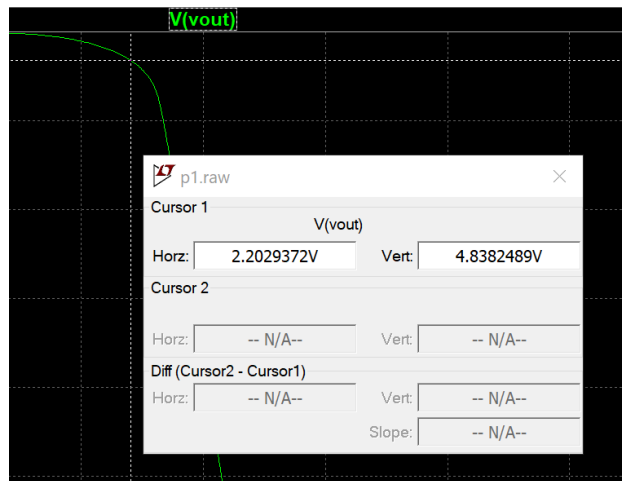
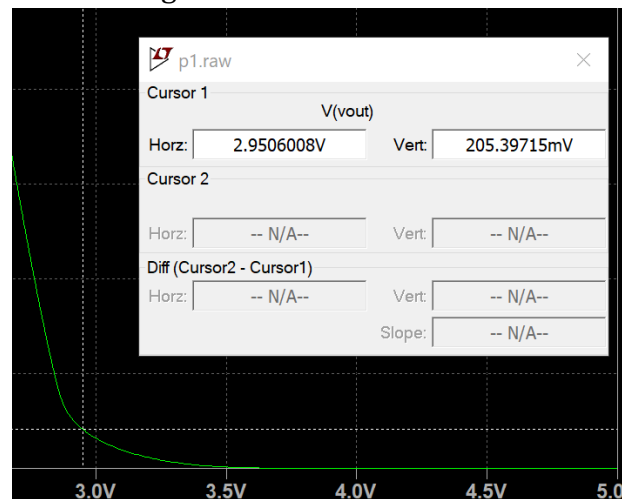

Fig. 14 V_{il} and V_{oh} of CMOS
Fig. 15 V_{ih} and V_{ol} of CMOS
b) From the cursor in fig. 14 and fig. 15, we can calculate $NM_h = 4.84 - 2.95 = 1.89V$ and $NM_l = 2.20 - 0.21 = 1.99V$. Comparing with the resistor load E-mode with $20K$ which $NM_h = 2.45V$ and $NM_l = 1.31V$, CMOS has a more even noise margin and a wider total noise margin width while V_{ol} and V_{oh} (signal swing) are approximately the same. Thus, the CMOS inverter is a better VTC than the resistor load E-mode driver inverter.